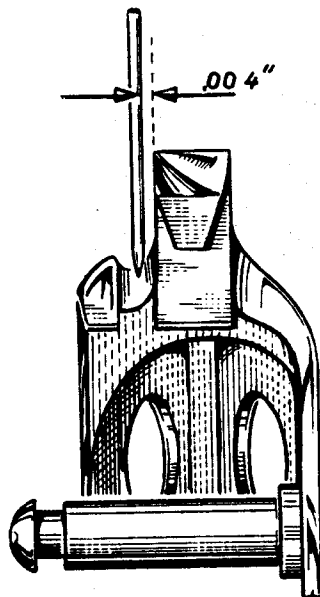
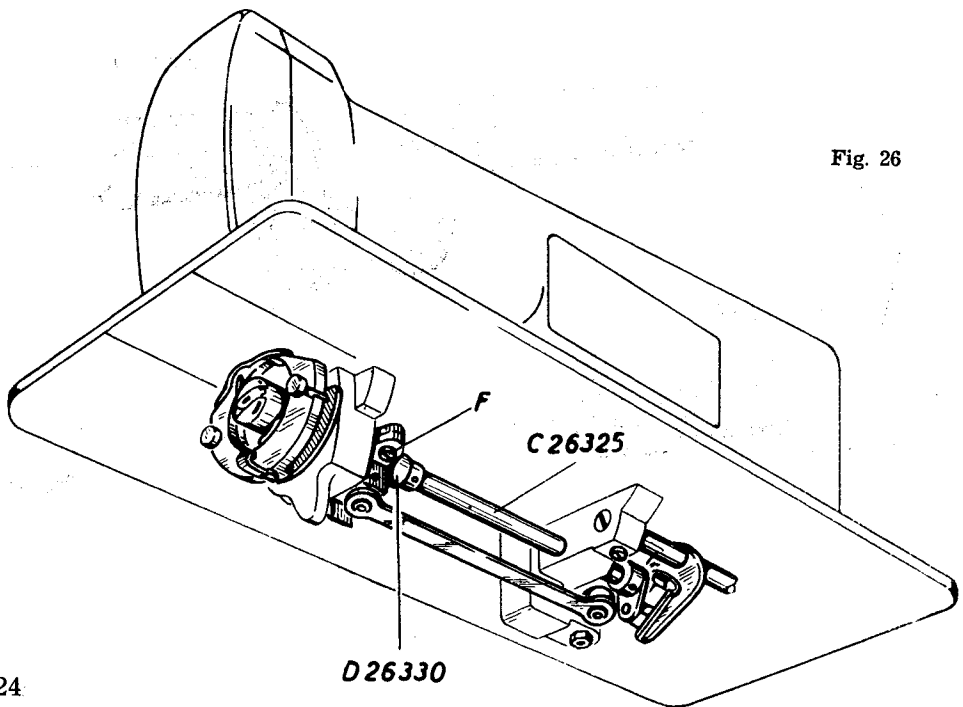
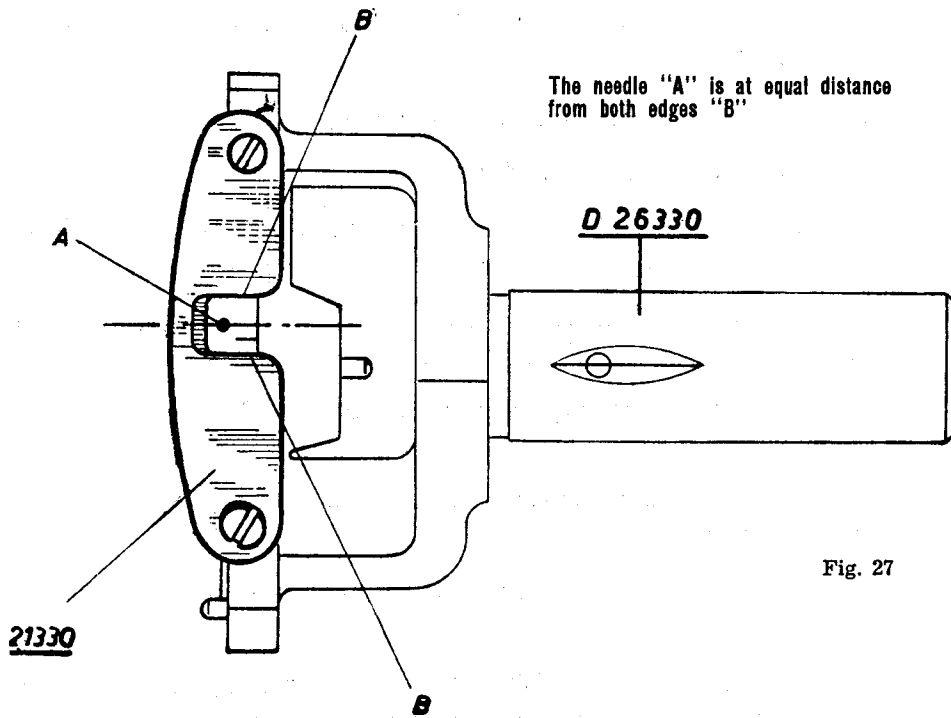
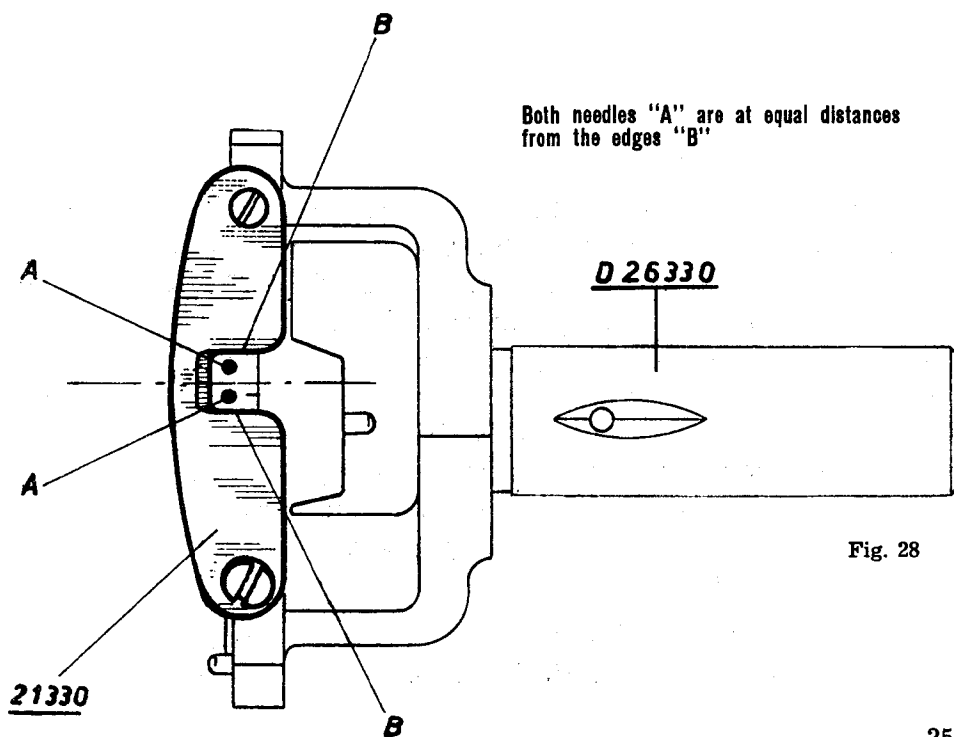

Fig. 21
Fig. 26
Fig. 27
Fig. 28
Without touching the needle, the point of the shuttle should be brought as close as possible to the needle (Fig. 21). If the point of the shuttle is too far from the needle, loosen the screw «F».
Without touching the needle, the point of the shuttle should be as close as possible to the needle (see Fig. 21 for the BF). If the point of the shuttle is too far away from the needle, loosen the screw « F » (Fig. 26) below the bed of the machine. Then, move the race body No. D 26330 with the carrier shaft in axial direction until the shuttle comes as close to the needle as possible without touching it. Before tightening the screw « F », adjustment IV should be checked.
The single needle A should pass exactly through the center of the slot (Fig. 27) in the race cover plate No. 21330. In the twin-needle machine the correct position of the needles is that shown in Fig. 28. To perform this adjustment, rotate the race body, No. D 26330, without moving it in an axial direction, around the carrier shaft No. C 26325. Now, the screw « F » can be firmly tightened (Fig. 26). All four adjustments mentioned can also be achieved with the aid of the TIMING GAUGE No. AC 4/68:
- h. Loosen the screw « F » below the bed of the machine (Fig. 26) in order to allow the race body No. D 26330 to move freely.
- n. Firmly tighten the screw « F » (Fig. 26) below the bed of the machine.